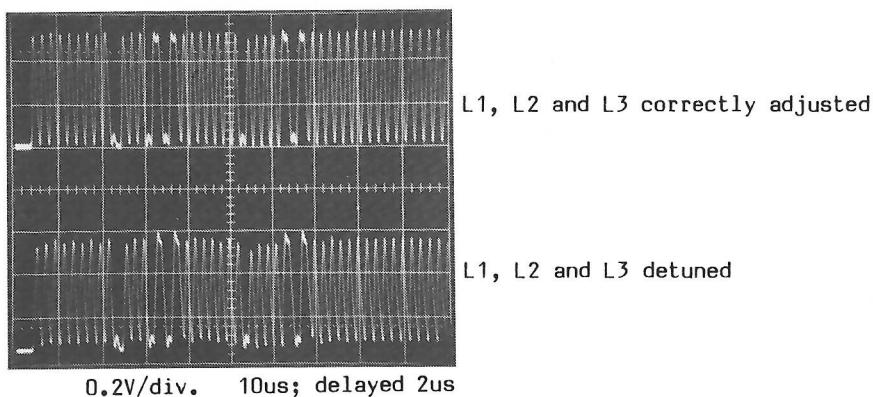

Fig. 21-2 Source code shape.
- If not OK, adjust R4 (See fig. 21-2).